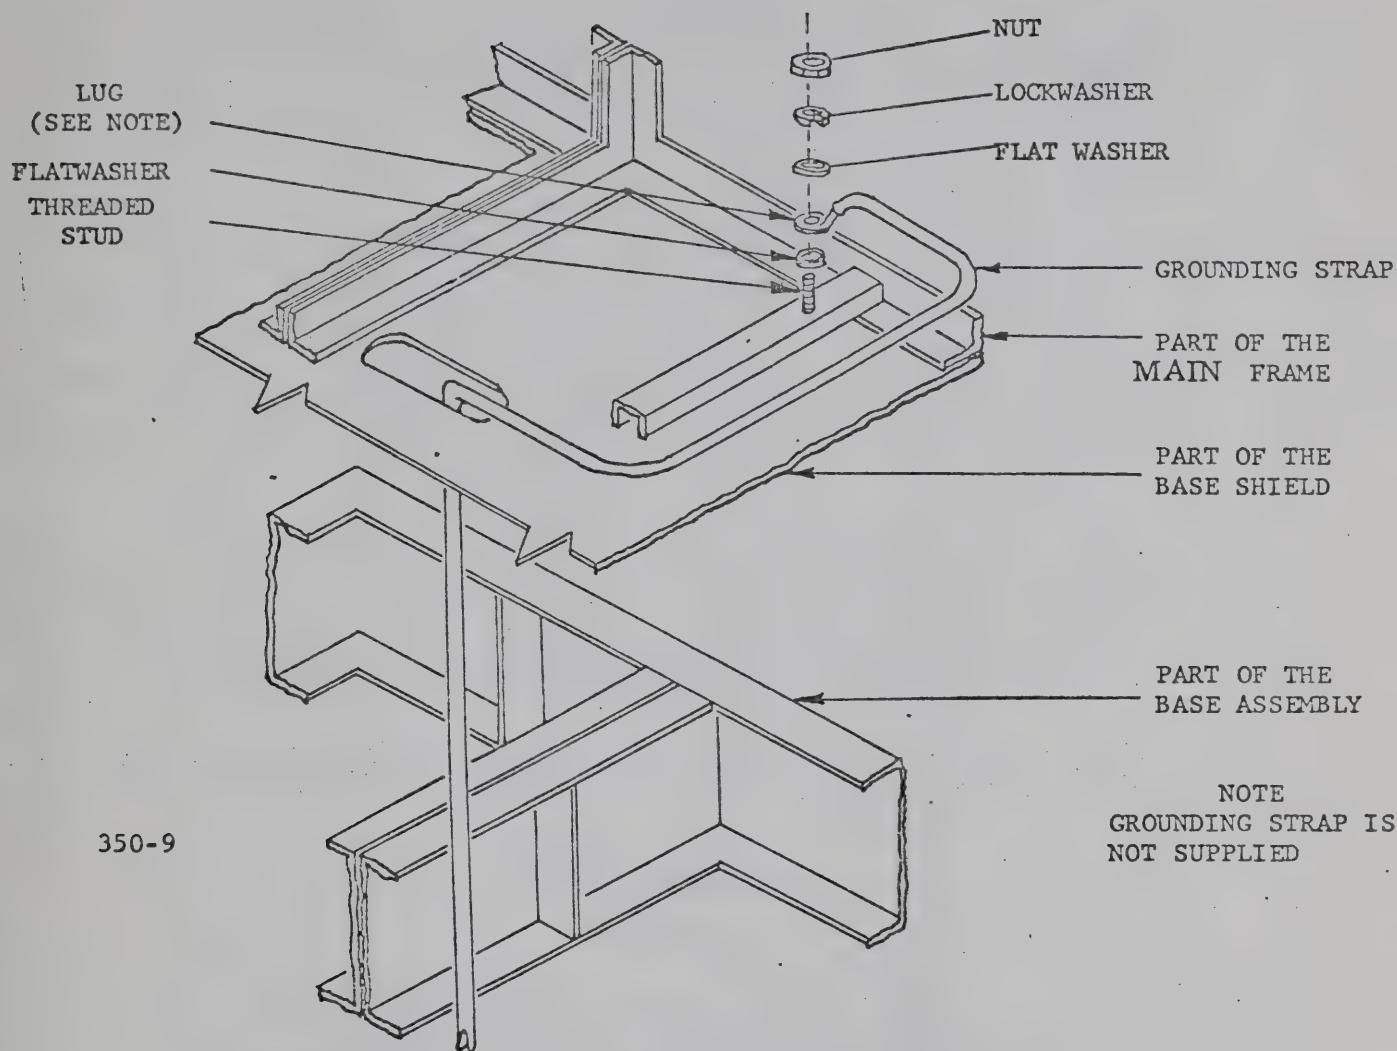

Figure 4-3. Grounding Strap, Installation Diagram.
- j. Using the hardware from crate 1 (bag-grounding strap mounting kit), connect grounding strap to threaded stud in bottom rear of the frame, (see figure 4-3).